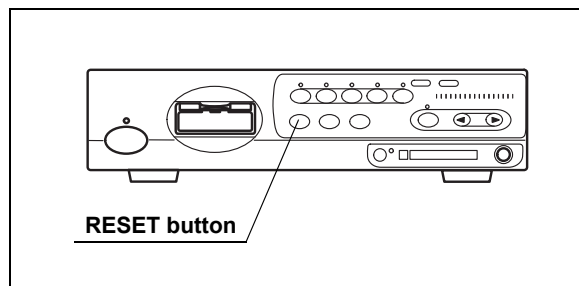

Figure 5.16
1. Press and hold the “RESET” button on the front panel (see Figure 5.16). All front panel indicators should blink for about 1 second, then the settings are reset.